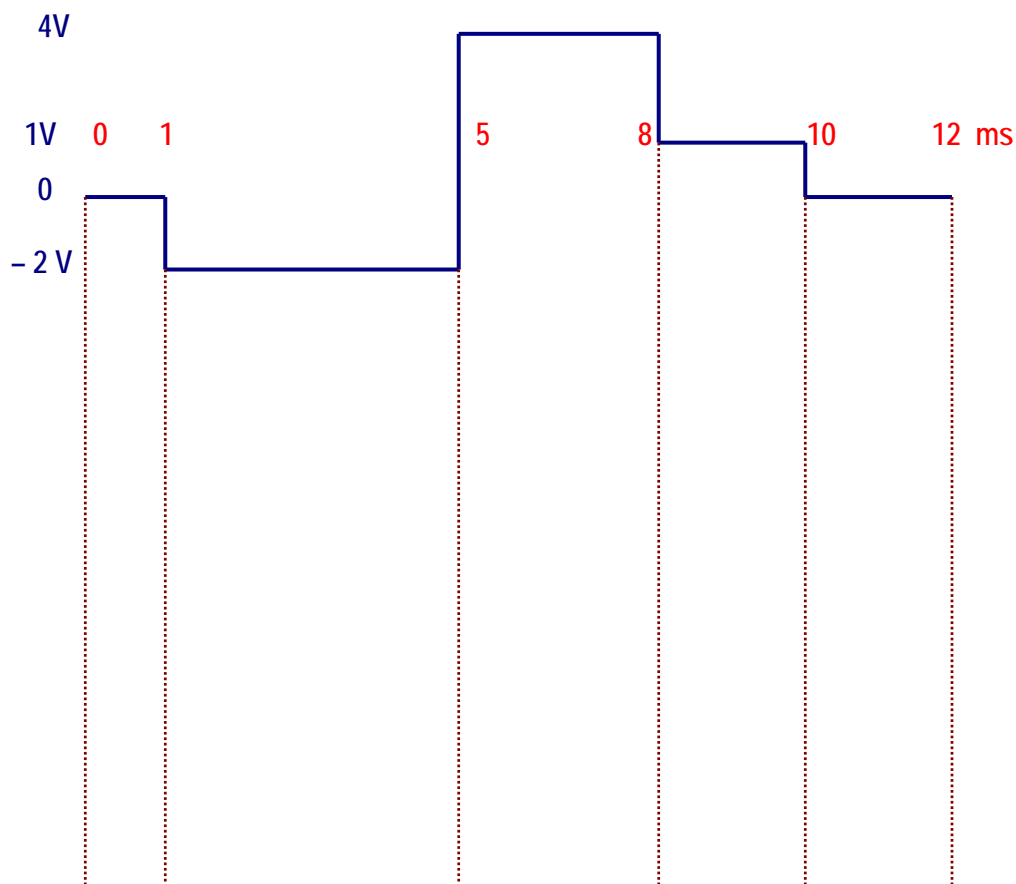

Figure 7-13. Input waveform for question 4.
4. The input waveform illustrated in Figure 7-13 is applied to an inverting integrator with: $RC = 2$ ms and a supply of ± 15 V.
- Draw the expected output waveform below the input signal in Figure 7-13 indicating its amplitude.